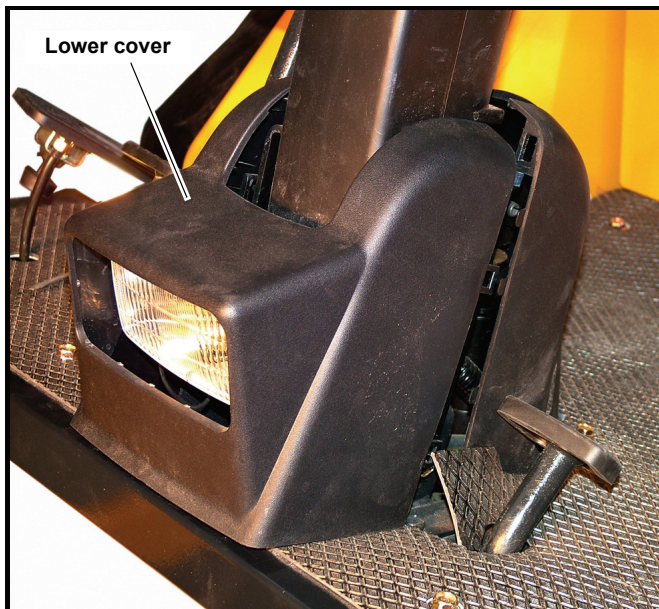

Figure 4-6
1. Pull the lower cover frontward and remove it. Figure 4-6